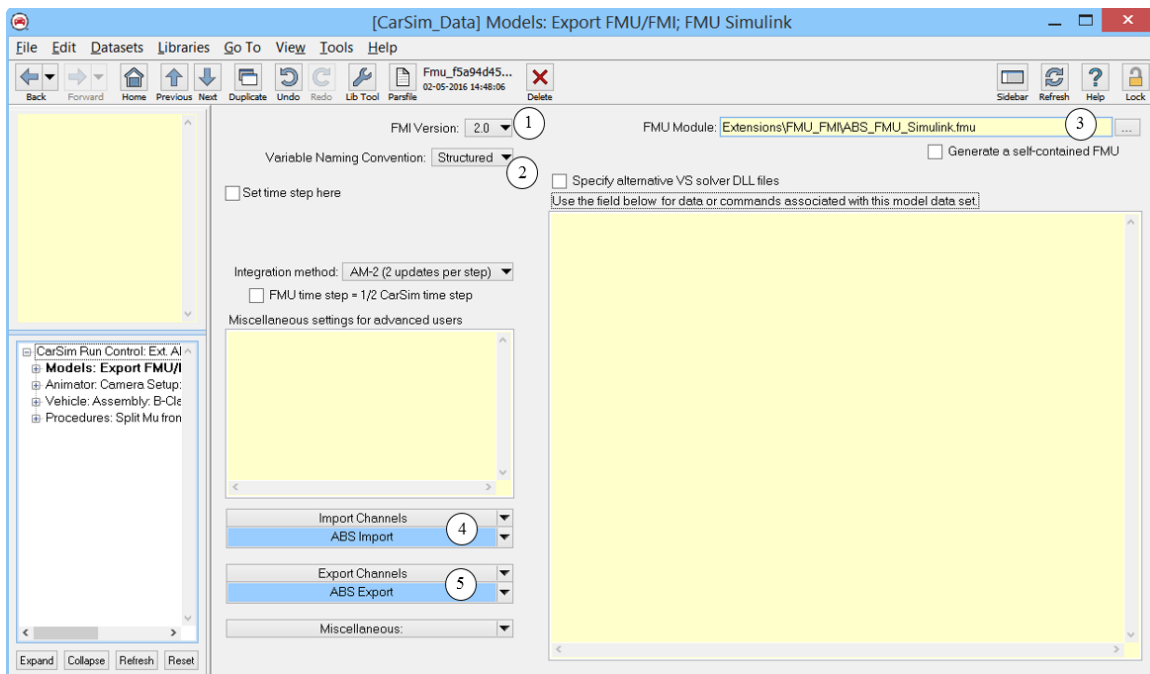

Figure 6. FMU Model screen.
5. Click on the blue link for **FMU Simulink** to view the new dataset in the library **Models: Export FMU/FMI** (Figure 6).
You can configure VS FMU I/O ports as a single port or with multi-ports. To see this, return to the **Models: Export FMU/FMI** dataset (Figure 6). The drop-down control **Variable Naming Convention** ⁽²⁾ (Figure 6) has two options: **Structured** and **Flat**.